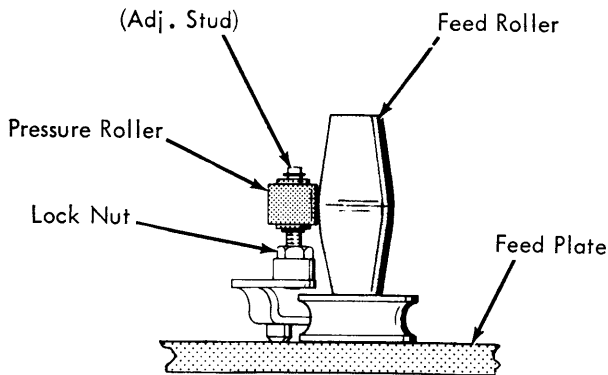

FIGURE 205. Pressure Roller Adjustment
6. **Pressure Roller** - Adjust the pressure roller up or down by its mounting stud so that it engages the center of the crown on the feed roller as shown in Figure 205.